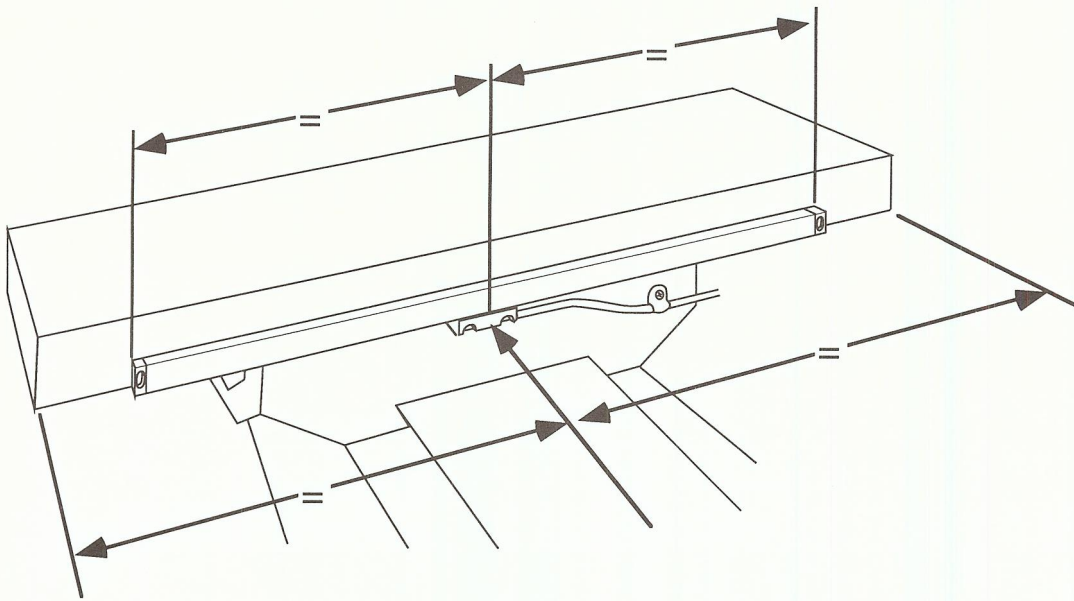

figure 6. X axis miniscale
2. Position the table to the middle of its travel and lock it in that position. Also, position the encoder box to the middle of the scale's travel. See Figure 6. Determine whether the miniscale will be mounted with the cable exiting to the left or to the right. Position the miniscale assembly against the back of the table so that the bottom longitudinal edge of the miniscale is flush with the lower edge of the table. Position the miniscale so that it does not cover any drain holes which are located at the ends of some tables. Route cabling so that the miniscale guard will not snag it.
8. Install a cable clamp on the table where the cable just exits under the miniscale guard. See Figure 6. After installing the miniscale guard, it may be necessary to bend it out to provide additional clearance for the cable. It is not advisable to exit the cable out the end of the guard since during travel it may catch and pull the cable from the encoder box.